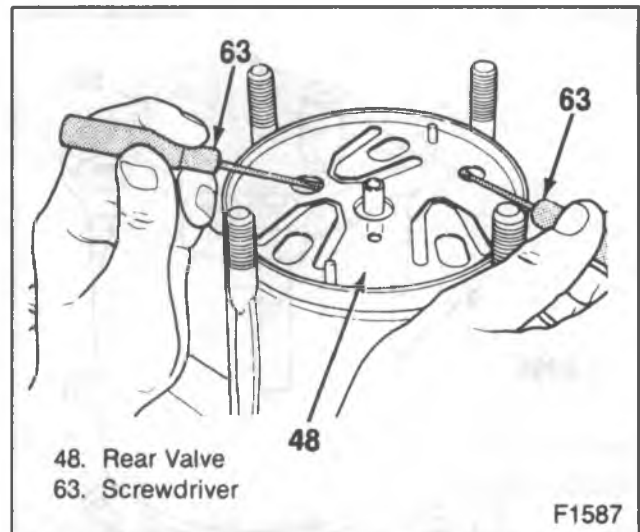

Figure 20—Removing the rear Suction Reed Plate
7. Rear suction reed plate (48) (figure 20).